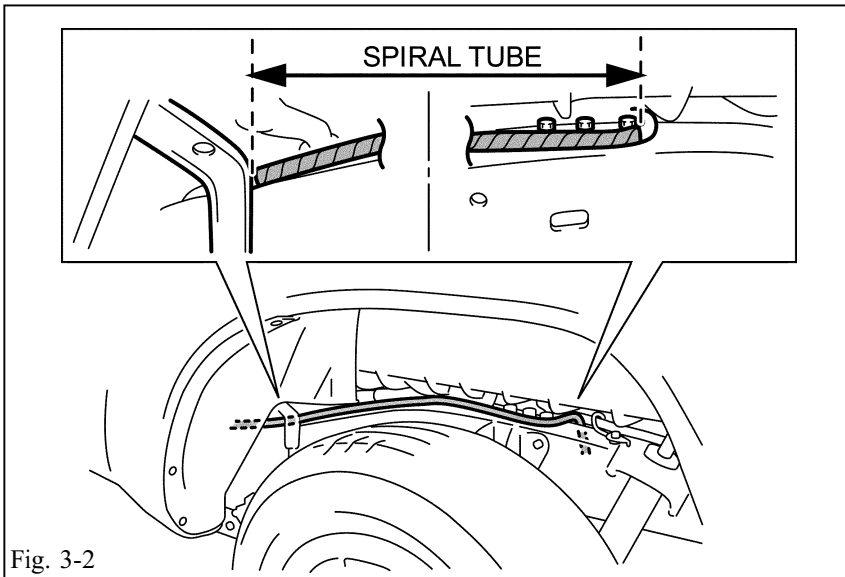

Fig. 3-2
- (1) Route the wire harness spiral tube to the position in the figure of the vehicle left side. (Fig. 3-2)